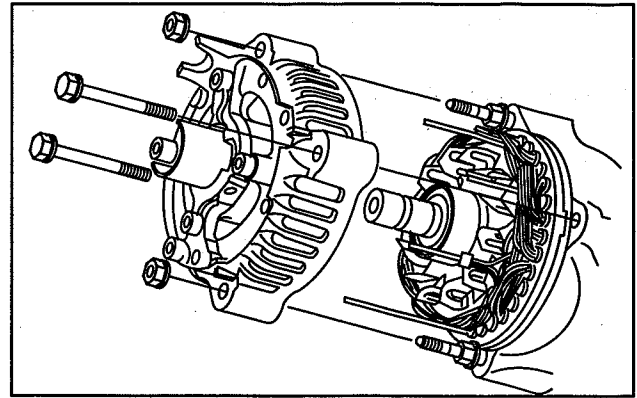

Fig. 37 - Assemble Housings
3. Assemble brush end housing to drive end housing with reference marks aligned, Fig. 37.